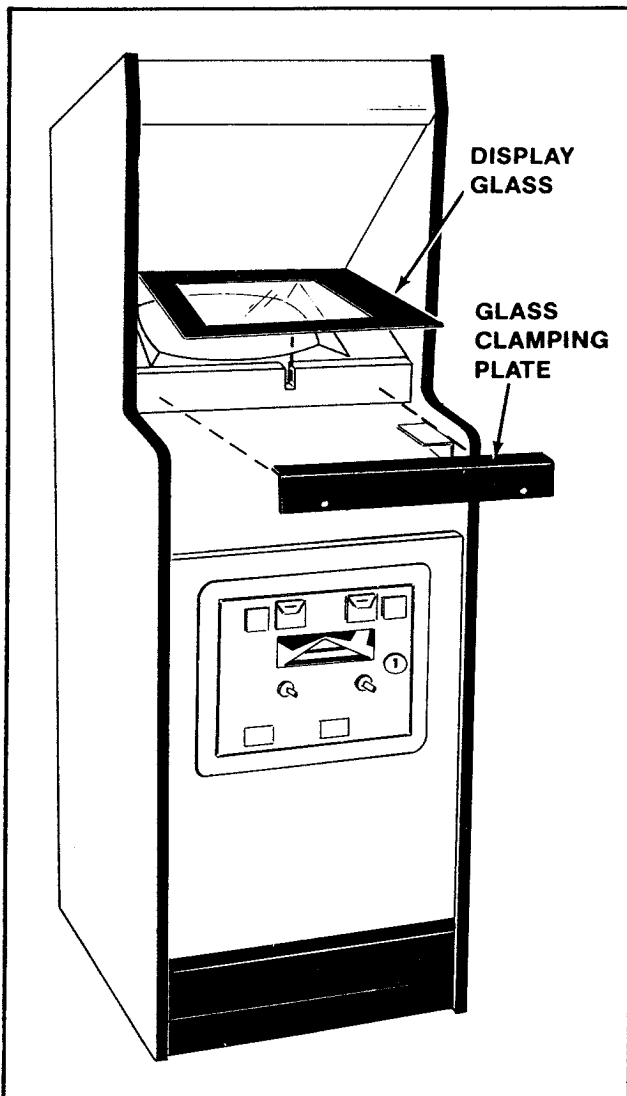

Figure 4-7 Removing Main-Display-Glass & T.V. Bezel — Mini
- ☐ Remove the screws which secure the glass clamping plate. See Figure 4-7.